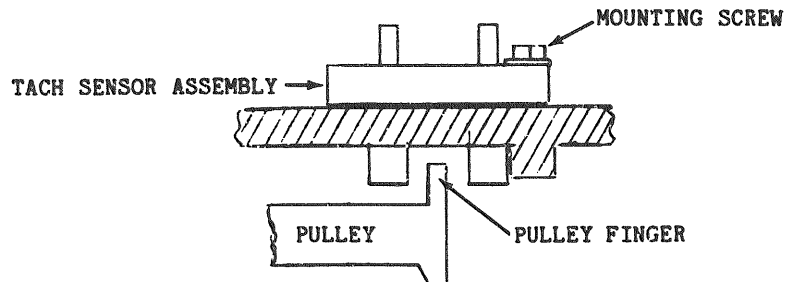

Figure 6-15. Sensor Alignment
- e. Ensure that the pulley's fingers do not interfere with the Tach Sensor Assembly (rotate the pulley by hand one or two revolutions for verification); see Figure 6-15.